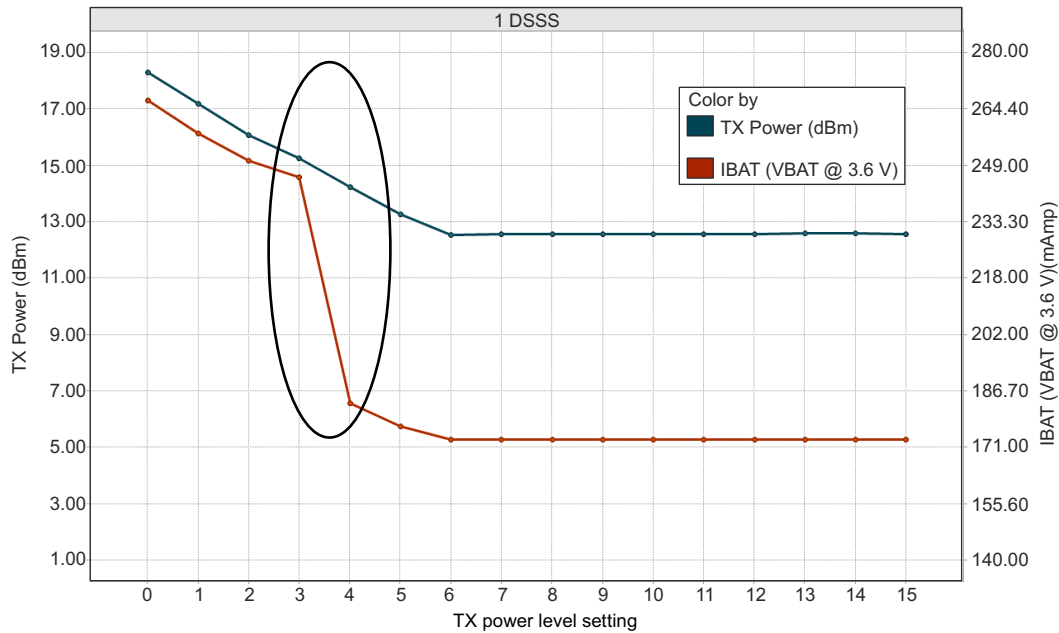

图 8-1. TX Power and IBAT vs TX Power Level Settings (1 DSSS)
- (1) TX power level = 0 implies maximum power (see Fig 8-1, Fig 8-2, and Fig 8-3). TX power level = 4 implies output power backed off approximately 4 dB.
- (2) LPDS current does not include the external serial Flash. The LPDS number of reported is with retention of 256KB of MCU SRAM. The CC3220x device can be configured to retain 0KB, 64KB, 128KB, 192KB, or 256KB of SRAM in LPDS. Each 64-KB block of MCU retained SRAM increases LPDS current by 4  $\mu\text{A}$ .
- (3) DTIM = 1
- (4) The complete calibration can take up to 17 mJ of energy from the battery over a time of 24 ms. In default mode, calibration is performed sparingly, and typically occurs when re-enabling the NWP and when the temperature has changed by more than 20°C. There are two additional calibration modes that may be used to reduced or completely eliminate the calibration event. For further details, see CC3120, CC3220 SimpleLink™ Wi-Fi® and IoT Network Processor Programmer's Guide.
- (5) The CC3220x system is a constant power-source system. The active current numbers scale based on the  $V_{\text{BAT}}$  voltage supplied.
- (1) TX power level = 0 implies maximum power (see 图 8-1, 图 8-2, and 图 8-3). TX power level = 4 implies output power backed off approximately 4 dB.
- (2) LPDS current does not include the external serial flash. The LPDS number of reported is with retention of 256KB of MCU SRAM. The CC3220x device can be configured to retain 0KB, 64KB, 128KB, 192KB, or 256KB of SRAM in LPDS. Each 64-KB block of MCU retained SRAM increases LPDS current by 4 µA.
- (4) The complete calibration can take up to 17 mJ of energy from the battery over a period of 24 ms. Calibration is performed sparingly, typically when coming out of HIBERNATE and only if temperature has changed by more than 20°C. The calibration event can be controlled by a configuration file in the serial Flash..
图 8-1, 图 8-2, and 图 8-3 show TX Power and IBAT versus TX power level settings for the CC3220R and CC3220S devices at modulations of 1 DSSS, 6 OFDM, and 54 OFDM, respectively. For the CC3220SF device, the IBAT current has an increase of approximately 10 mA to 15 mA depending on the transmitted rate. The TX power level will remain the same.
In 图 8-1, the area enclosed in the circle represents a significant reduction in current during transition from TX power level 3 to level 4. In the case of lower range requirements (14-dBm output power), TI recommends using TX power level 4 to reduce the current.